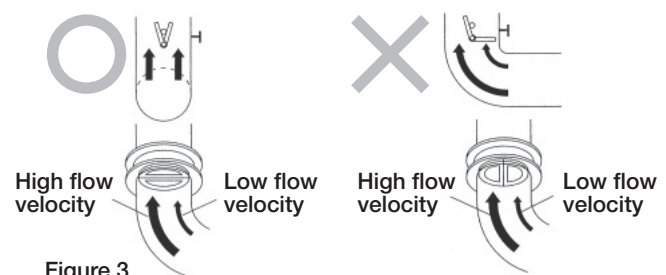

Figure 3
- When the valve is mounted near a bend, such as elbow, as shown in Figure 3, the turbulent flow may cause vibration, noise, and unbalanced disc operation.